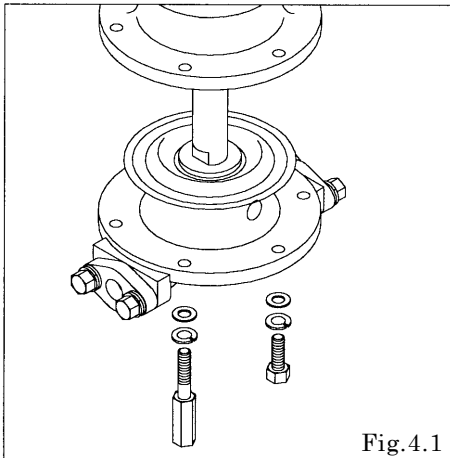

Fig.4.1
- Remove 6 out chamber mounting bolts and studs respectively, and remove the out chamber. (AD-10, AD-25) [Fig. 4.1]
- Remove the 8 out chamber locking bolts, studs and nuts respectively, and remove the out chamber. (AD-40, AD-50) [Fig. 4.1]